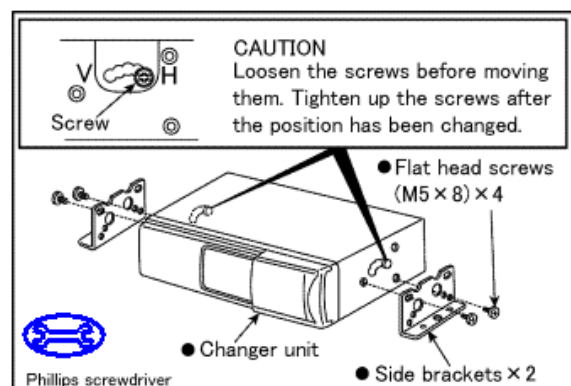

Figure S1
1. Using Phillips screwdriver, attach the side brackets to the changer unit. (Figure S1)